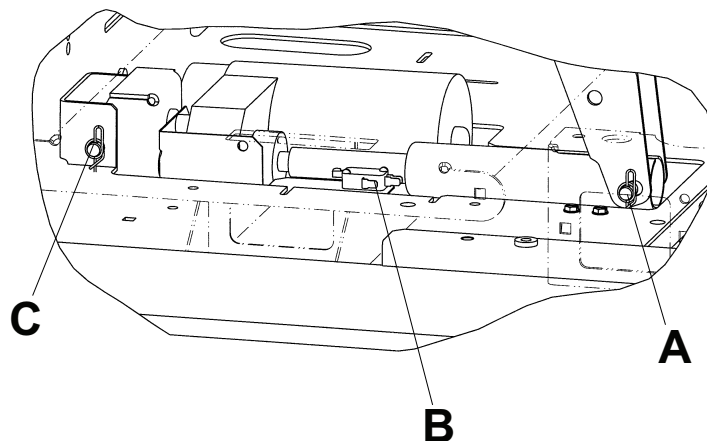

Figure 13 – Removing and replacing the knee motor
4. Using needle nose pliers, remove the Rue pin (A) from the end of the drive tube (Figure 13).
6. Remove the two wires from the auto contour micro switch (B) mounted next to the drive tube (Figure 13).
8. Using needle nose pliers, remove the Rue pin (C) from the motor bracket and lift the motor out (Figure 13).